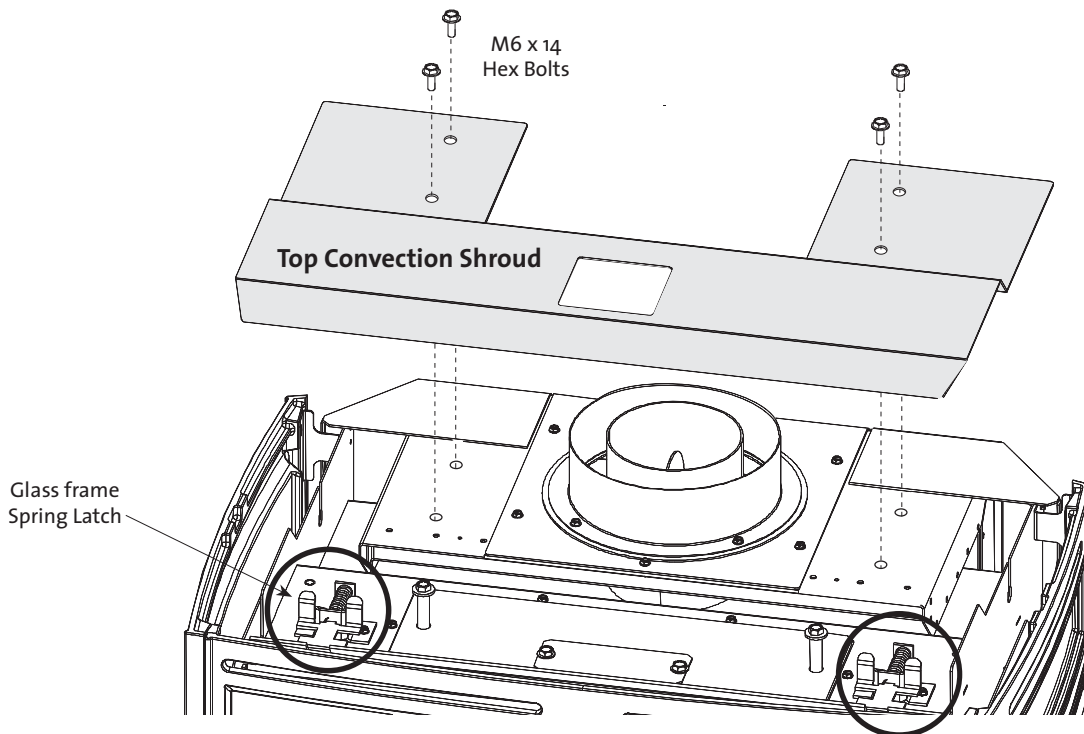

Figure 2. Remove the Top Convection Shroud and disengage the glass frame latches.
- a) Remove four hex head bolts using a 10 mm wrench and disengage the Top Convection Shroud from the top of the firebox. See fig. 2.
- b) Remove the Glass Frame by disengaging the two spring latches located on top of the firebox as in fig. 2. Pull each handle forward to clear the latch from the notch in the frame and lift the frame straight up out of the stove.